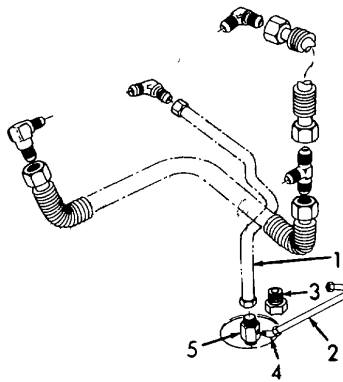

Figure 3-32. Check Valve, Installation.
(1) Inspect for stripped threads.
(2) Inspect for signs of obvious damage.
e. Installation. (Refer to Figure 3-32).